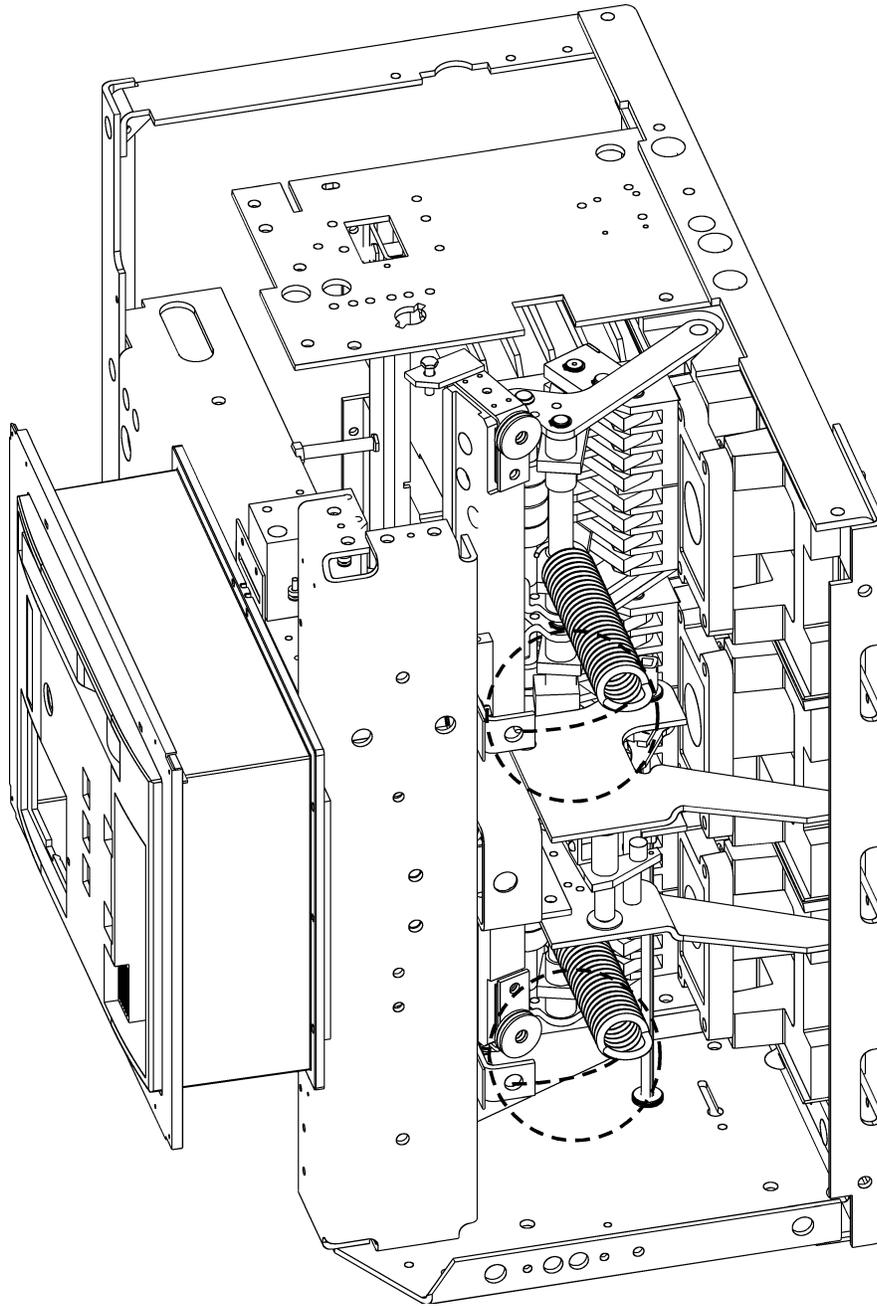

Figure 8. Removal of the two opening springs from the outside poles (view from the bottom of the breaker).
6. Remove the two opening springs from the outside pole units on the lower part of the breaker, as illustrated in Figure 8. Note each spring's position on the pole unit pin. In 4,000A and 5,000A breakers, the right pole spring is mounted to the right of a tube spacer and flat washer. This position maintains sufficient clearance between the spring and the Network Interlock accessory.
11. Reconnect the two opening springs to the outer pole mechanisms, as illustrated in Figure 8.